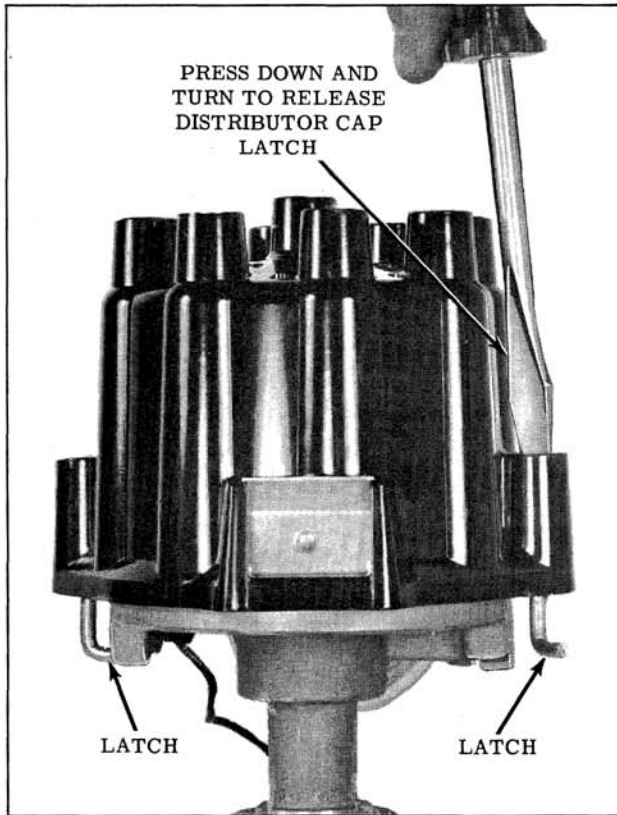

Fig. 13-63 Removing Distributor Cap
2. Remove distributor cap as shown in Fig. 13-63.